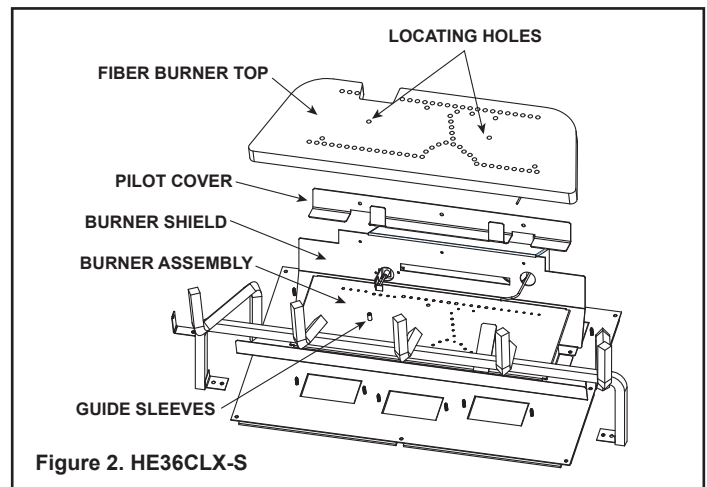
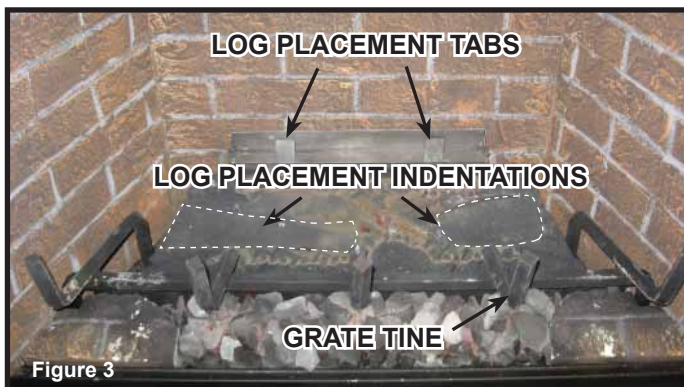
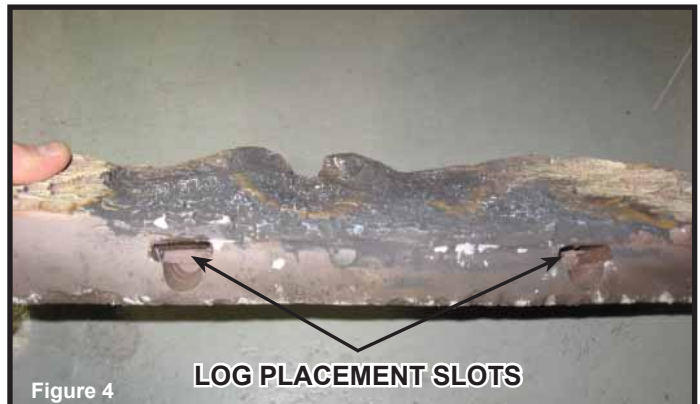
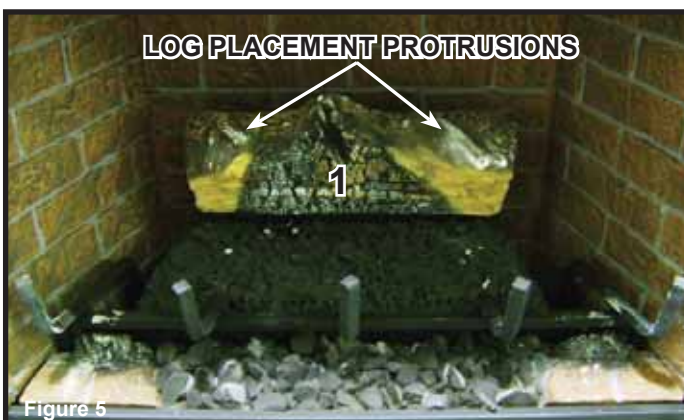

Figure 2. HE36CLX-S
Figure 3
Figure 4
Figure 5
**CAUTION:** Logs are fragile, handle with care. **Log #1 (2166-721):** Locate log placement tabs on the pilot cover. Bend tabs upward as shown in Figure 3. Tabs should be in a vertical orientation. A pliers may need to be used. Locate the log placements slots on the bottom of Log #1. See Figure 4. Mate the slots located on the bottom of Log #1 with the placement log tabs on the pilot cover. Log #1 is properly installed when it sits squarely and completely on pilot cover with tabs engaged. See Figure 5.
Figure 5 shows the log placement protrusions located on the top of Log #1. The protrusions will be mated with the grooves located on the bottom of Log #2 and Log #3. See Figure 6. Log #2 and Log #3 also have grooves that allow the logs to be seated properly on the grate. See Figure 6. Hold Log #1 upright while placing Log #2.
**Log #4 (2166-724):** Place Log #4 in the left log indentation on the burner top. See Figure 3. Slide Log #4 from right to left under Log #2 to fit completely and securely into the indentation. See Figure 9. Nose of log #4 should be pulled to fit securely against right hand side of log indentation.
**Log #5 (2166-725):** Place Log #5 in the right log indentation on the burner top. See Figure 3. Ensure the log fits completely and securely in the recessed indentation. See Figure 10. Log #5 should be pulled to the left hand side of log indentation. Rotate right side of Log #5 toward the back of the indentation.
**CAUTION:** Logs are fragile, handle with care. **Log #1 (2170-721):** Locate log placement tabs on the pilot cover. Bend tabs upward as shown in Figure 2. Tabs should be in a vertical orientation. A pliers may need to be used. Locate log placement slots on the bottom of Log #1. See Figure 3. Mate slots located on the bottom of Log #1 with the log placement tabs on the pilot cover. Log #1 is properly installed when it sits squarely and completely on the pilot cover with log placement tabs engaged. See Figure 4.
Figure 4 shows the log placement protrusions located on the top of Log #1. The protrusions will be mated with the grooves located on the bottom of Log #2 and Log #3. See Figure 5. Log #2 and Log #3 also have grooves that allow the logs to be seated properly on the grate. See Figure 5. Hold Log #1 upright while placing Log #2.